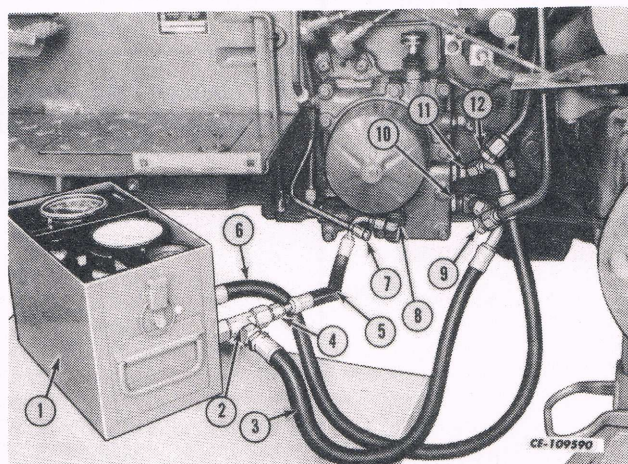

Fig. 54
1. Hook up Flo-rater PLT-863 (1) as shown in Fig. 54. (The left rear wheel and fender has been removed for illustration purposes.)